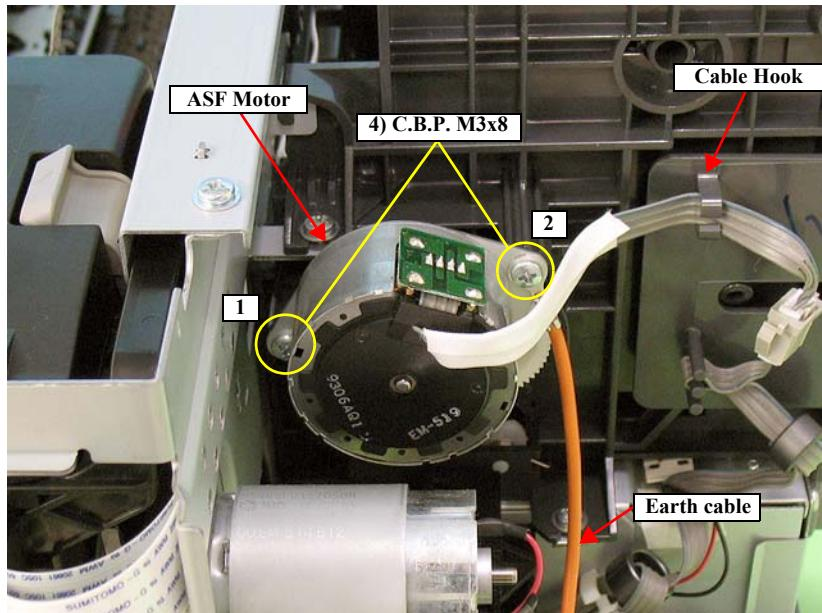

Figure 3-148. Removing the ASF Motor
- Tighten the screws in the order shown in Figure 3-148